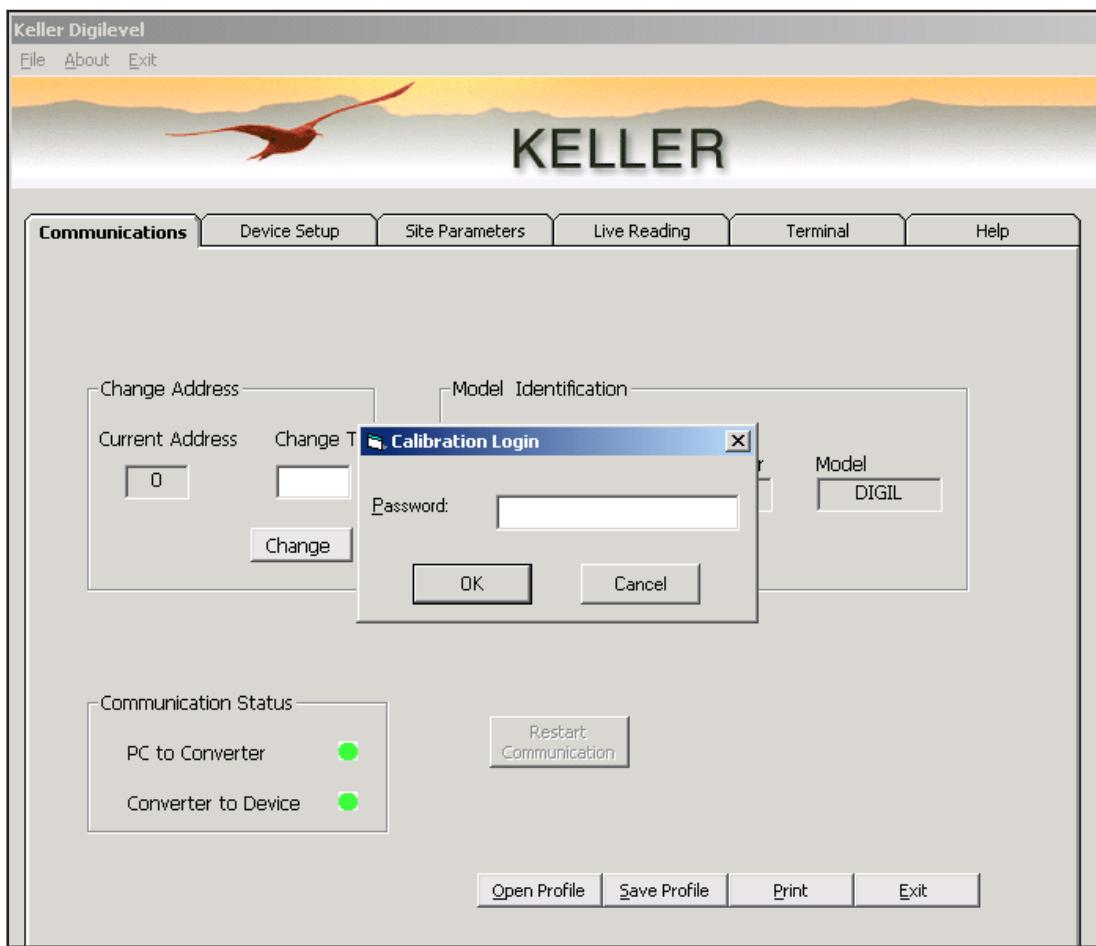

Figure 1 - Login
1. To enter and enable the Calibration, the Digilevel program must show the Communications tab. A Digilevel probe should be attached at this point. User then enters **<Ctrl><F3>** to display the login/password window. See Figure 1 below.